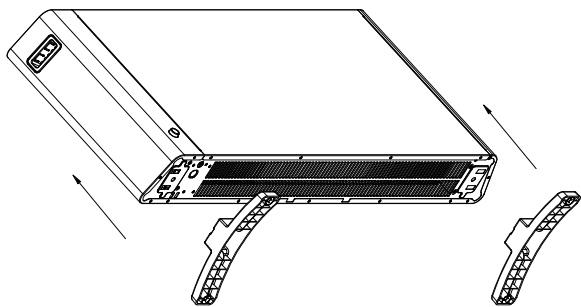

Fig.2
2. Fasten the two base feet upward.(Fig. 2)